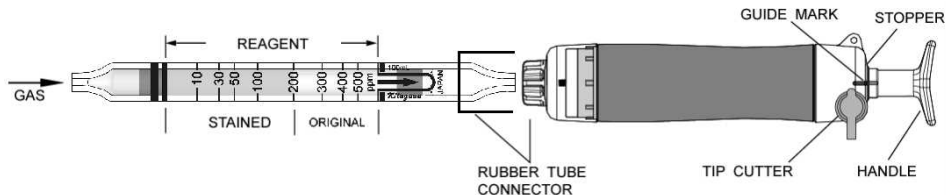

Fig.1
- ② Insert the detector tube into the aspirating pump securely as shown in Fig.1. (Arrow mark shall point to the pump.)
- ③ Align the guide marks on the shaft and stopper of the aspirating pump.
- ④ Pull the pump handle at a full stroke until it locks and wait for 1 minutes or until the completion of sampling is confirmed with the flow indicator of the pump. (See descriptions about the flow indicator in the instruction manual of the pump.)
- ⑤ On completion of sampling, read the scale at the maximum point of the stained layer.